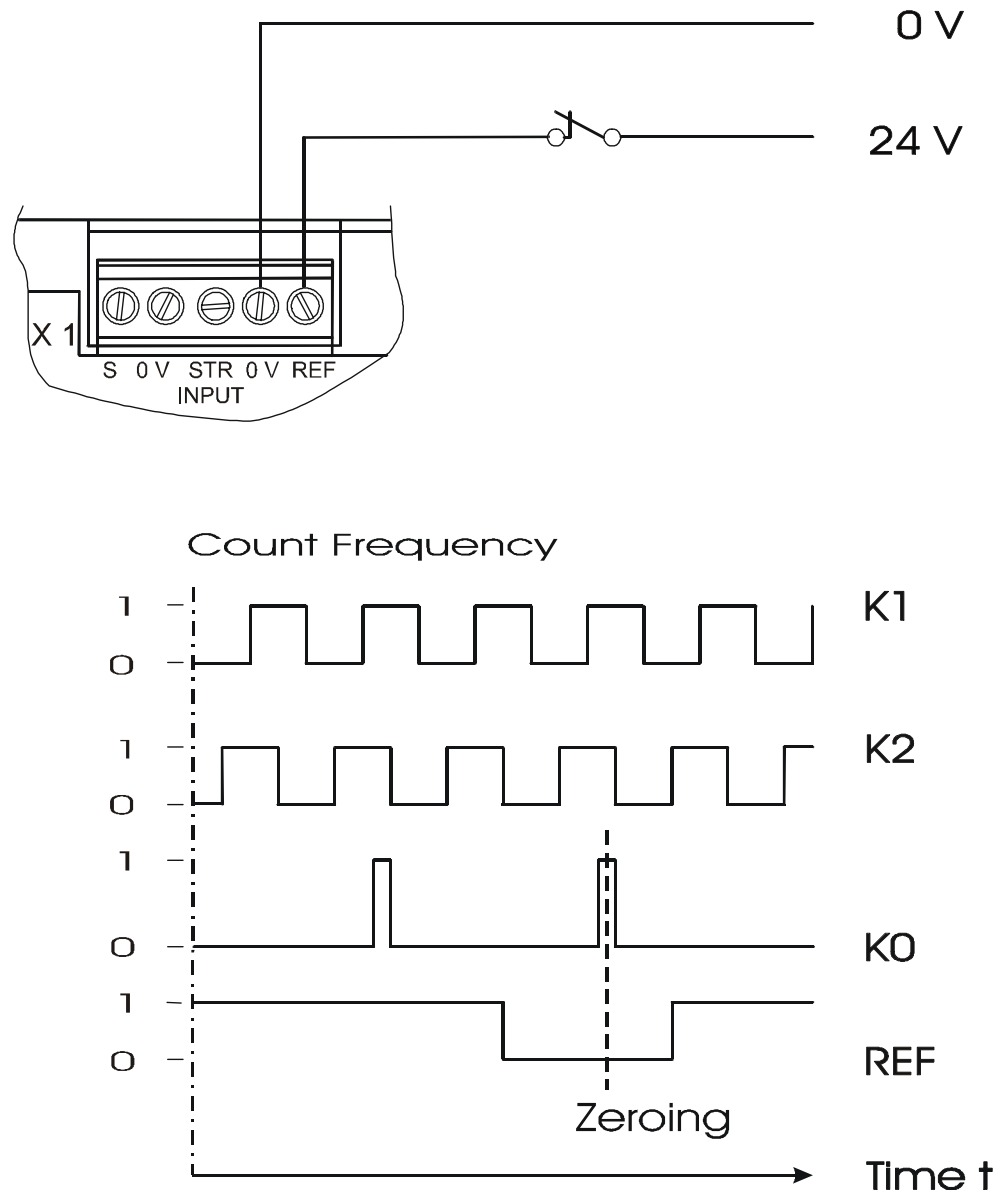

Fig. 50: Pulse sequence of counting signals
- For initialisation through hardware the input of terminal REF is to be set to zero (REF = 0). Through its 15-pin SUB-D connector, the incremental encoder supplies K0 = 1 (refer to fig. 50: "Pulse sequence of counting signals", page 206).